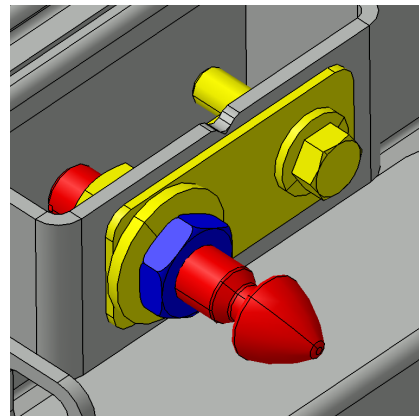

FIGURE 130
7. Use the pin to adjust the door so it is even with the adjacent steel sheet. Screw or unscrew the pin as required and then apply final tightening to the jam nut (FIGURE 130).